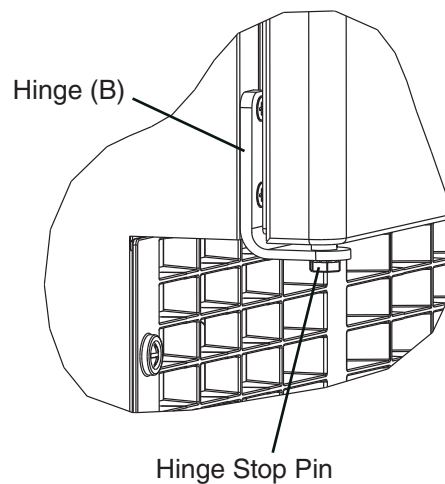

**Fig. 5**
- 5) Rotate the top panel 180° from its previous position. This brings the notch that was previously in the right rear to the left front. See Fig. 5. Hook the rear part of the panel on the body, then secure the front with the 2 screws removed in step 2.